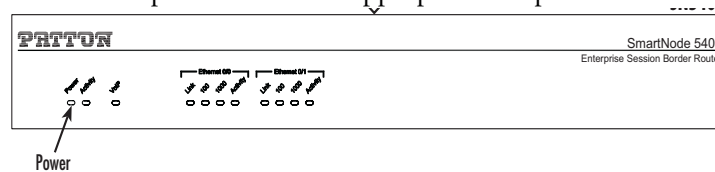

Figure 5. Power LED
The 5400 has the option of an internal or external Internal AC Power Supply, or an internal or external Verify that the green Power LED is lit (see figure 5).
4. Verify that the green *Power* LED is lit (see figure 5).